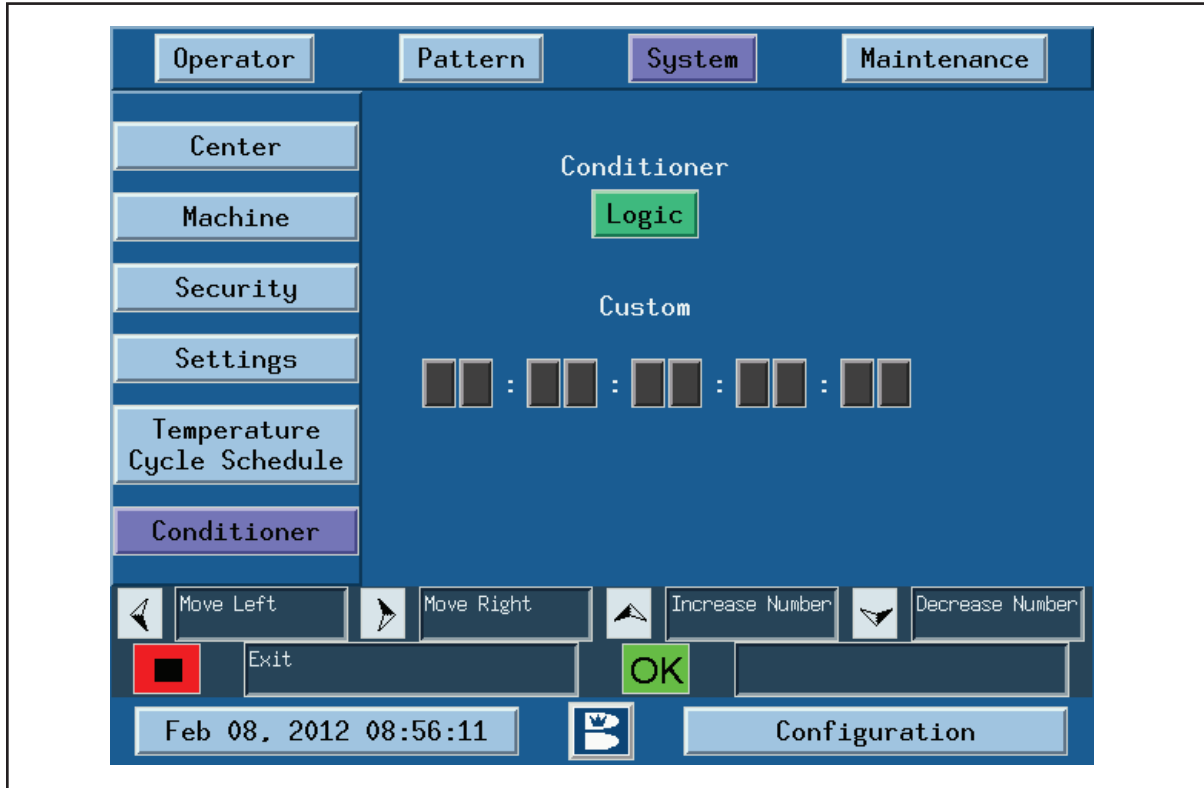

Figure 5-23. Conditioner
1. Go to the System menu. Refer to Figure 5-23.